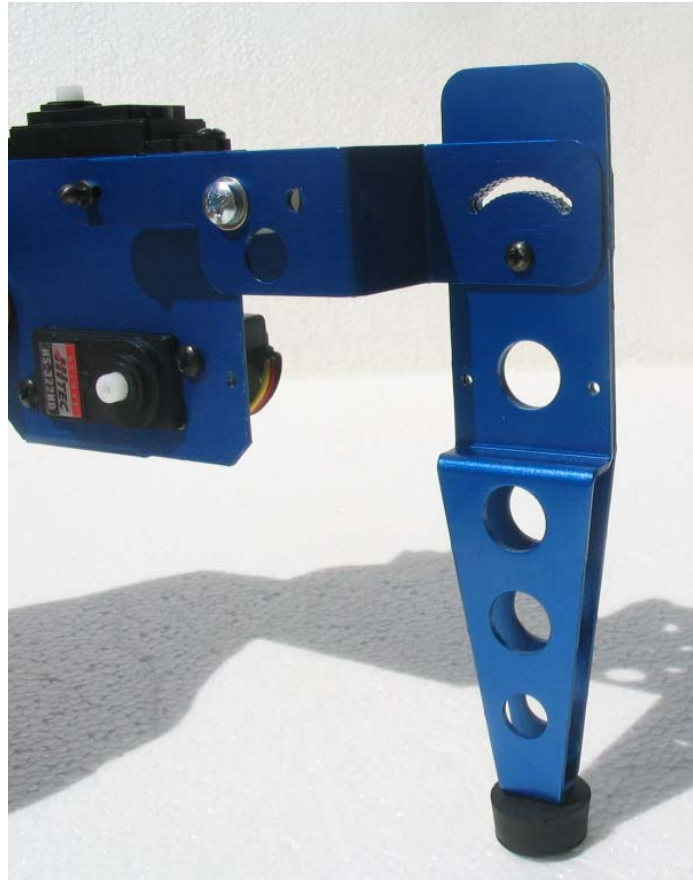

Figure 9 – Completed Assembly
9. Using a 1/8" drill bit, drill out the 2nd hole of the straight servo horn as shown in figure 9. To make drilling easier, place the servo horn onto a servo before drilling.